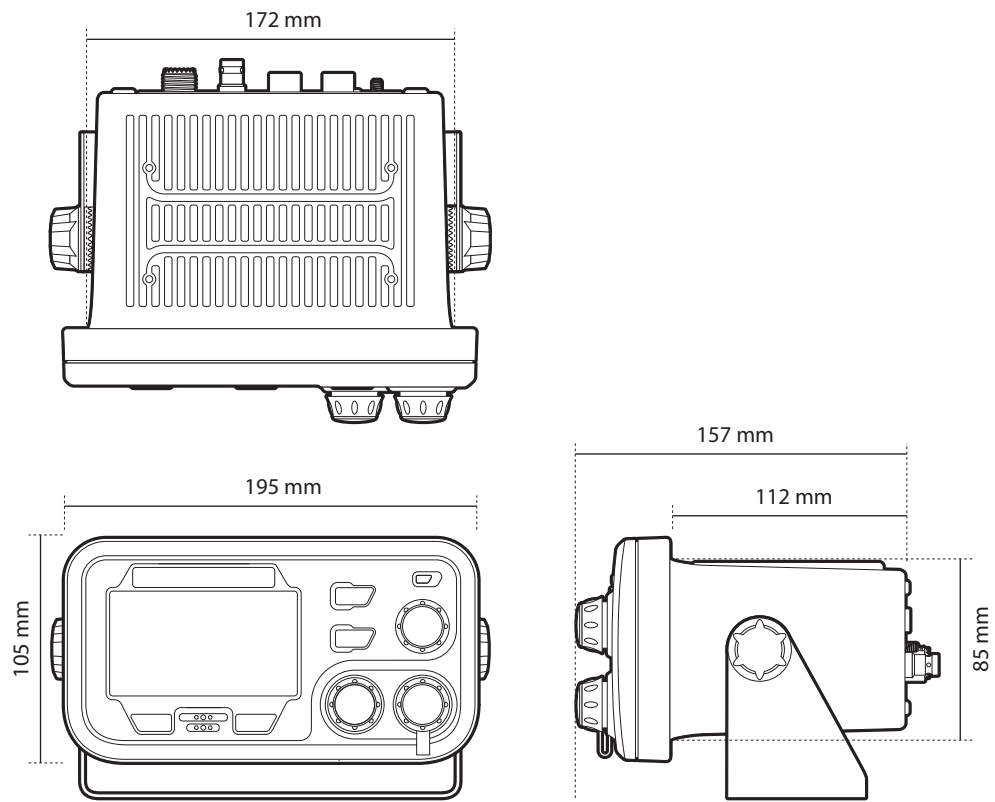

Figure 37 AIS transceiver dimensions
- There should be adequate space around the AIS transceiver for routing of cables. See Figure 37 for details of the AIS transceiver dimensions.